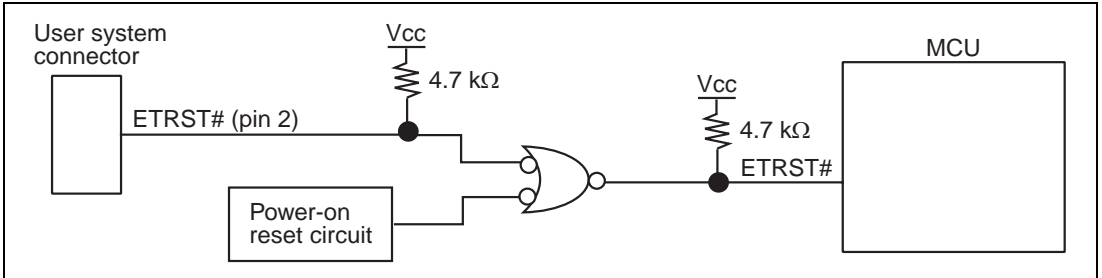

Figure 1.8 Connection of the ETRST# Pin
- Connect the power-on reset circuit signal to the ETRST# pin as shown in figure 1.8. Otherwise, the MCU may not be initialized even if it is supplied with power when the emulator is not connected. Do not supply any other reset signal to the ETRST# pin. If attempted when the emulator is connected, the communication between the emulator and the MCU may be terminated.